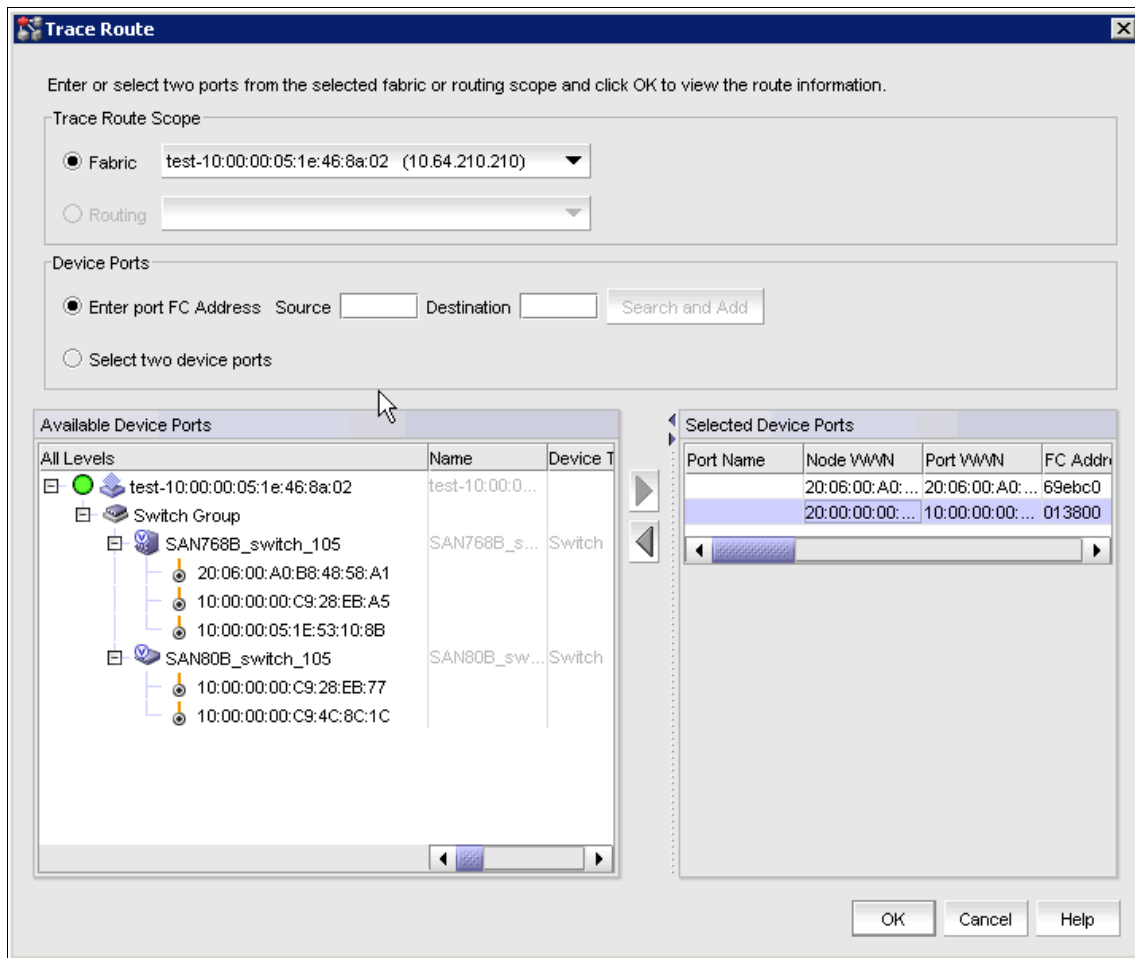

Figure 17-34 Select devices
2. The *Trace Route* dialog box opens, as shown in Figure 17-34. Select two devices from the *Available Device Ports* panel and move them to the *Selected devices Ports* panel. Alternatively, you can search for devices either by device port WWN or device port name using the *Search and Add* panel. Click **OK** to start Trace Routing.